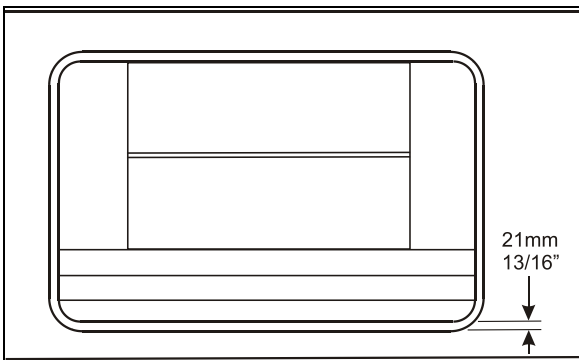

FIGURE 5: SLIDE-OUT LEVEL ADJUSTMENT
The desired height level is 13/16" (21mm) from the bottom (Figure 5)
When proper level is reached (Figure 5) retaining screws A & B maintain the support seated on the leveling screws.
The desired gap on each side is 13/16" (21mm) (Figure 5)
1. With the lower edge of the slide-out outer panel flush with the vehicle body, adjust the slide-out level. (Figure 5) The distance between the top of the horizontal member under the slide-out and the slide-out under panel must be 21mm (13/16" approximately).